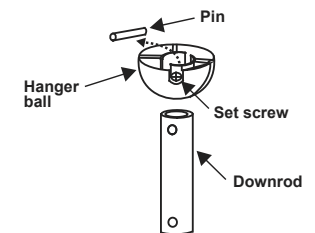

Figure 6
Step 3. Remove hanger ball from downrod assembly by loosening set screws, removing the pin, and sliding hanger ball off downrod. (Fig. 6)